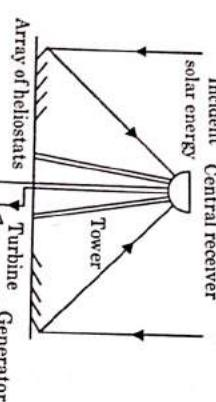

Fig. 2.23.3. Central receiver power plant.
3. The array is provided with a tracking control system that focuses beam radiation towards the receiver as shown in Fig. 2.23.3.